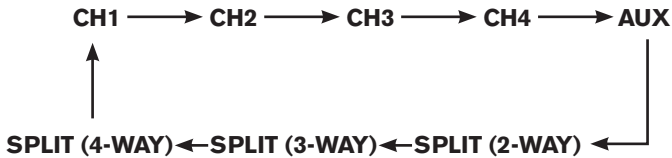

Fig. 2 Source Select Sequence
- Pressing 'Select' button sequences source input modes in order indicated in Fig. 2.